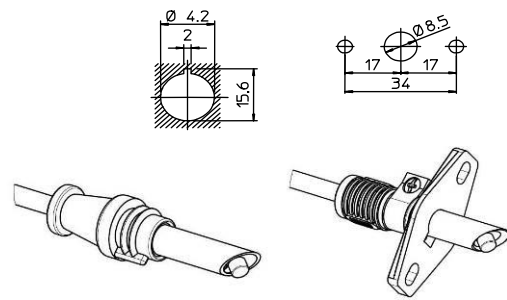

Fig. 9 – Types and fixing systems for FT11 and FT13
- if the starting attempt occurs without fuel supply, the controller locks out at the end of the safety time (TS). In case of one or more recycle attempts (Ynn option), the controller locks out at the end of the last recycle attempt (according to the Ynn option);
- the level of the flame signal is high enough (for flame signal test see figure 9 and 10);